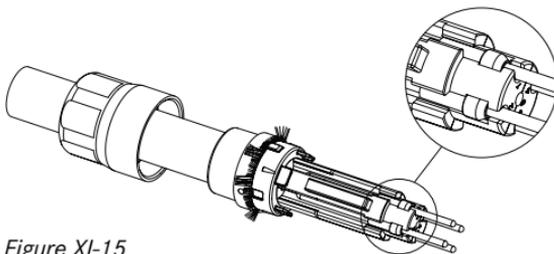

Figure XI-15
7. Insert the contacts sideways into the contact carrier. (Figure XI-15). Use the coloured identification marks on the contact carrier for the pin assignments.